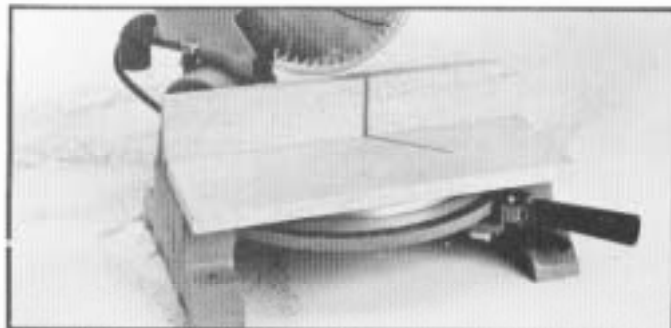

Fig. 71
6. If the auxiliary fence and table is to be used for cutting 45 degree right or left miters, an additional fence and table should be constructed and a 45 degree right hand miter cut made in the fence and table, as shown in Fig. 71.